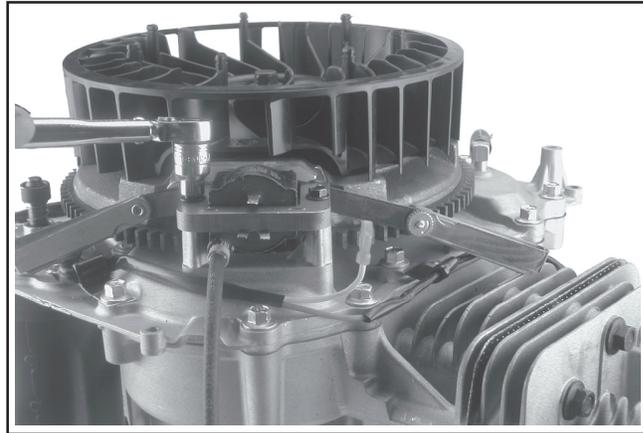

Figure 10-49. Setting Air Gap.
3. Insert a **0.25 mm (0.010 in.)** flat feeler gauge between the magnet and ignition module. See Figure 10-49. Loosen the screws so the magnet pulls the module against the feeler gauge.